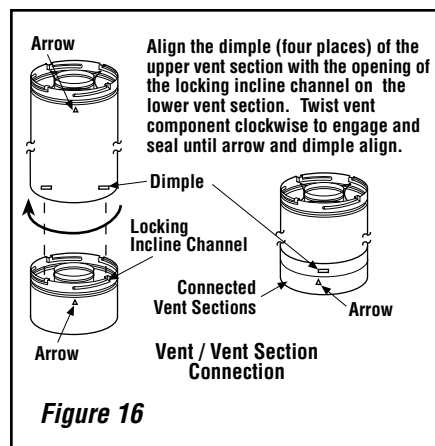

Figure 16
Push the vent component against the previous section until it fully engages, then twist the component clockwise running the dimples down and along the incline channels until they seat at the end of the channels. **This seating position is indicated by the alignment of the arrow and dimple as shown in Figure 16.**
Secure Vent SV8 direct vent system components are unitized concentric pipe components featuring positive twist lock connection, (refer to **Figure 16 on Page 12**). All of the appliances covered in this document are fitted with collars having locking inclined channels. The dimpled end of the vent components fit over the appliance collar to create the positive twist lock connection.
- Other vent sections may be added to the previously installed section in accordance with the requirements of the vent tables. To add another vent component to a length of vent run, align the dimpled end of the component over the inclined channel end of the previously installed section, adjusting the radial alignment until the four locking dimples are aligned with the inlets of the four incline channels of the previous section. Push the vent component against the previous section until it fully engages, then twist the component clockwise running the dimples down and along the incline channels until they seat at the end of the channels. **This seating position is indicated by the alignment of the arrow and dimple as shown in Figure 16 on Page 12.**